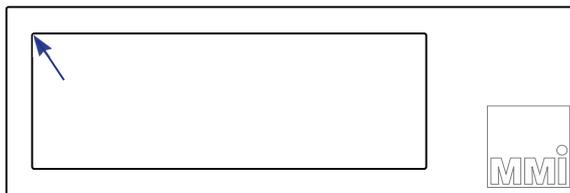

Figure 5.37: Suggested positions on a *mmi* Membrane slide to precisely adjust the stage insert position.
5. scan an overview image in slide 1, see 5.4.4 and adjust the image to the slide position by shifting the whole insert. To get a precise positioning we recoment to adjust the image of the left upper corner of an membrane slide (Fig. 5.37) or the image of wells of an ampligrd to the displayed slide.